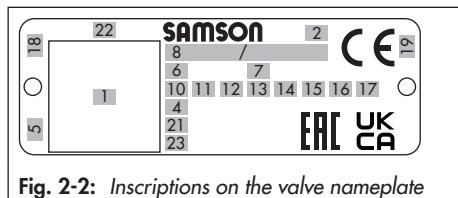

Fig. 2-2: Inscriptions on the valve nameplate
*Fig. 2-2 and the inscription table list all possible characteristics and options that may appear on a valve nameplate. Only the inscriptions relevant to the ordered Type 3598 Valve actually appear on the nameplate.*